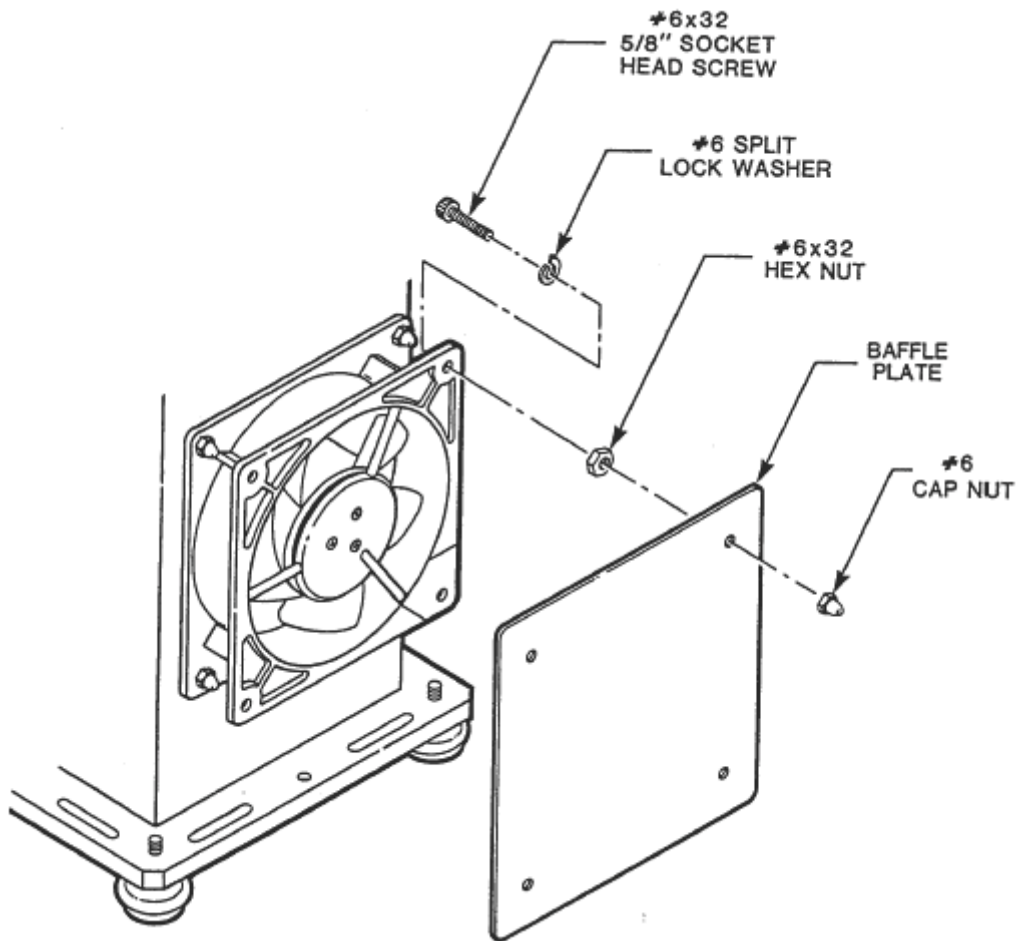

Figure 8: Attaching baffle plate
Table 2 shows which lamps require a baffle, and Figure 8 shows the installation. To install the baffle plate:
2. Install the Baffle Plate as shown in Figure 8, using the four screws from the finger guard. After installing the baffle recheck the current and voltage characteristics. This information is available in the catalog.